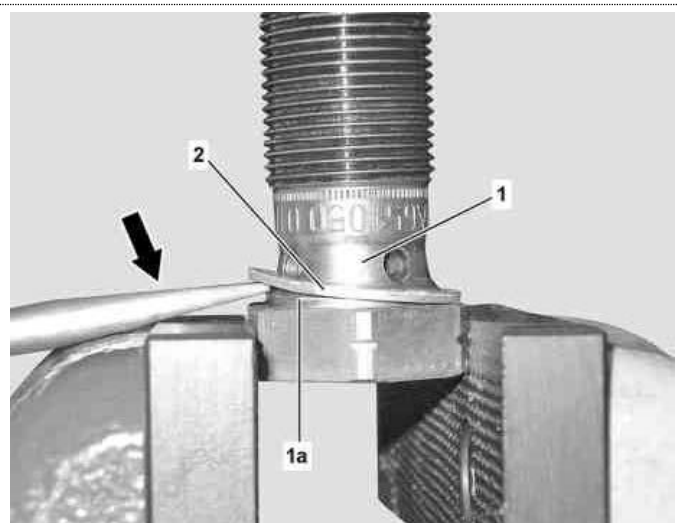

Figure 5
- Unfasten the sealing ring (2, Figure 5) using a small screwdriver (arrow), pry off and take off.
- Check oil feed bore for chain tensioner (1, Figure 5) for fouling and foreign objects and clean if necessary.
- Lay on a new sealing ring (2, Figure 5) by hand and pre-center with slight pressure on the centering collar (1a, Figure 5).
i Press on sealing ring (2, Figure 5) but not completely; the sealing ring (2, Figure 5) assumes the correct location through screwing in.